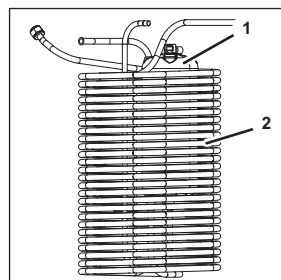

Figure 78
10. Lift the cooling coil basket (Figure 78/2) with carbonator tank (Figure 78/1) out of the unit.
13. Lift the carbonator tank (Figure 78/1) up and out of the cooling coil basket (Figure 78/2).
14. Position the new carbonator tank (Figure 78/1) within the cooling coil basket (Figure 78/2).
15. Attach the carbonator tank (Figure 78/1) to the cooling coil basket (Figure 78/2) using a cable tie.
16. Make sure the carbonator tank (Figure 78/1) is firmly placed against the cooling coils.
19. Position the cooling coil basket (Figure 78/2) with carbonator tank (Figure 78/1) within the unit.